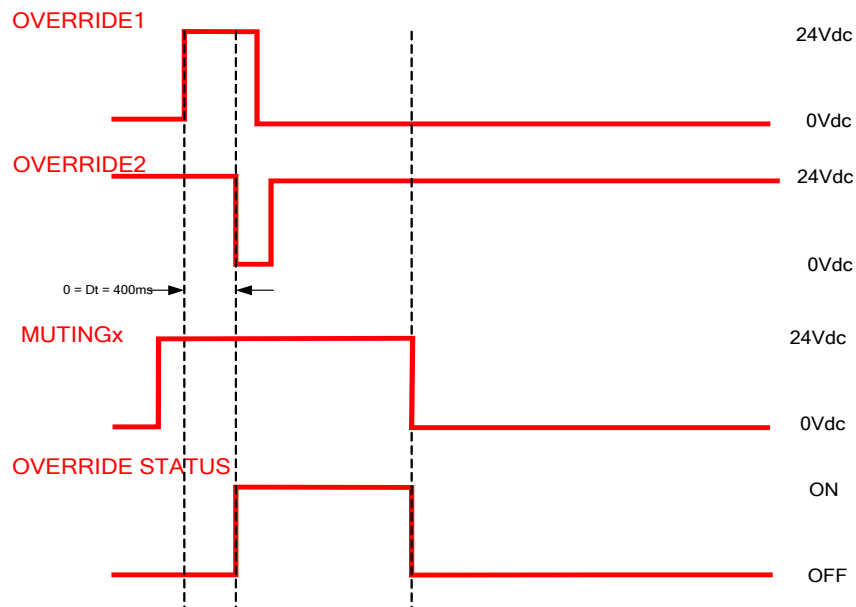
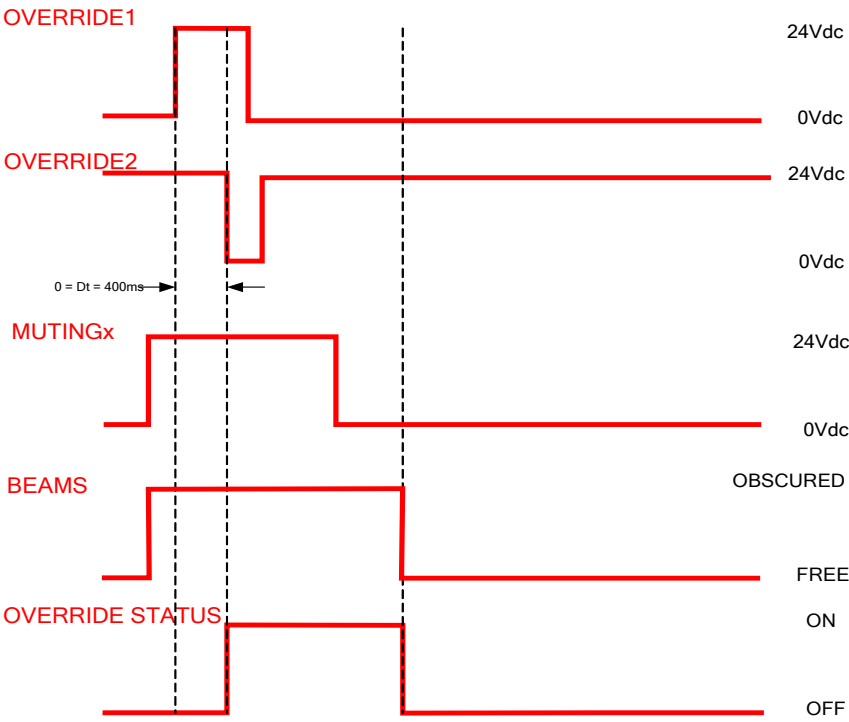

Figure 43
Figure 44
- the muting sensors are free (T-Muting, Figure 43), or the muting sensor are deactivated and the beams of the light curtain are free (L-Muting, Figure 44).
The coding function allows the ESPE to remain in normal operation also when an interference condition with an other ESPE occurs, and in particular when the TX of the first light curtain radiates in the direction of the RX of the second light curtain (see Figure 43). Obviously, the two light curtains must be configured with two different codes (see also 3.2.3 – “Distance between homologous devices”).